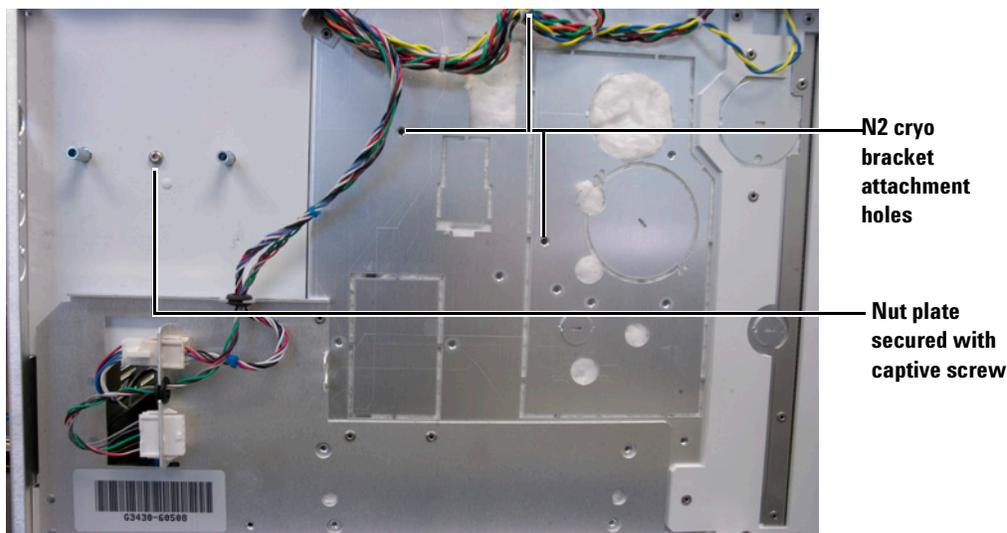

Figure 18 Nut plate installed
- 10 Align the sheet metal plate of the cryo assembly on the left side of the GC and secure with three screws. Refer to Figure 18 for the locations of the screw holes.